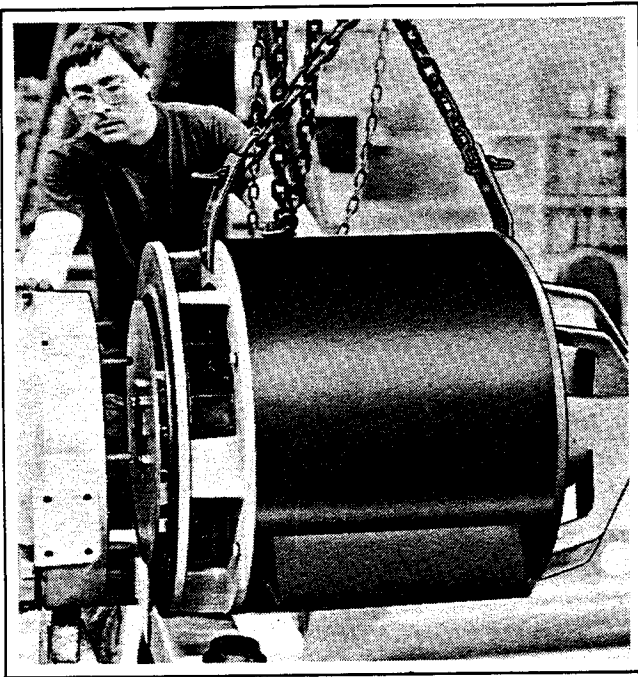

Figure 5-16. Positioning Generator
10. Suspend assembled generator in level position as shown in Figure 5-16. Turn flywheel to align studs or guide pins with drive discs.